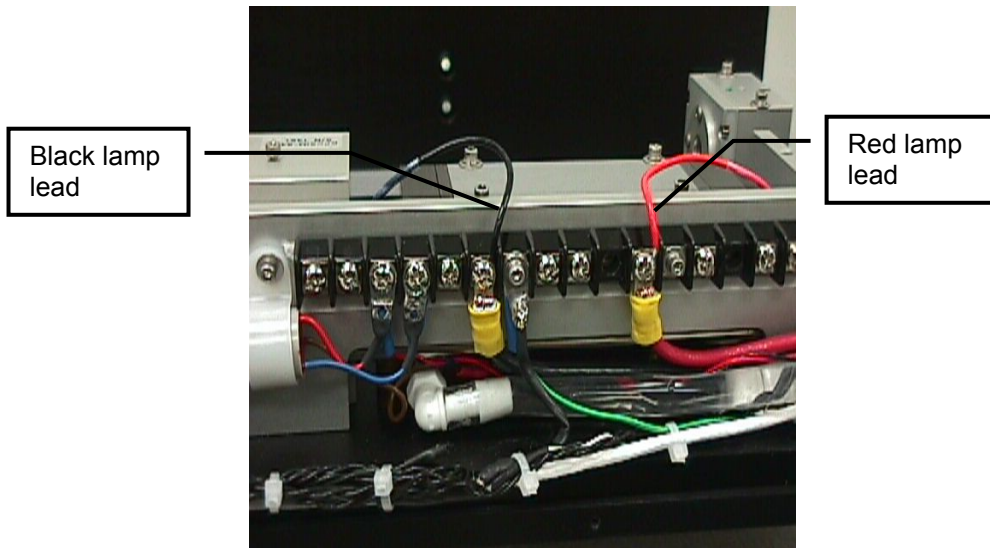

Figure 5-3. Removing Leads to Replace Flashlamp
- 3) Remove the RED and BLACK flashlamp leads from the terminal strip, Figure 5-3.
- 13) Reconnect the RED and BLACK flashlamp leads, as shown in Figure 5-3.